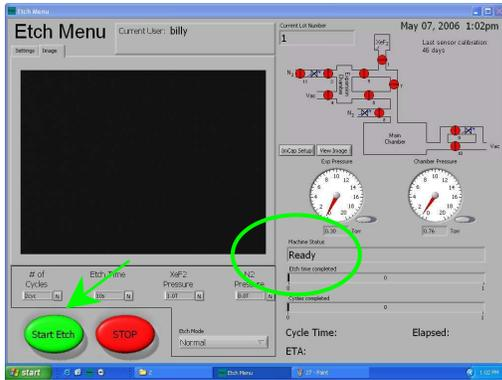

Figure 2.21
- When everything is ready, press “**Start Etch**”. Machine processing stage is shown in the “**Machine Status**” (Figure 2.21)